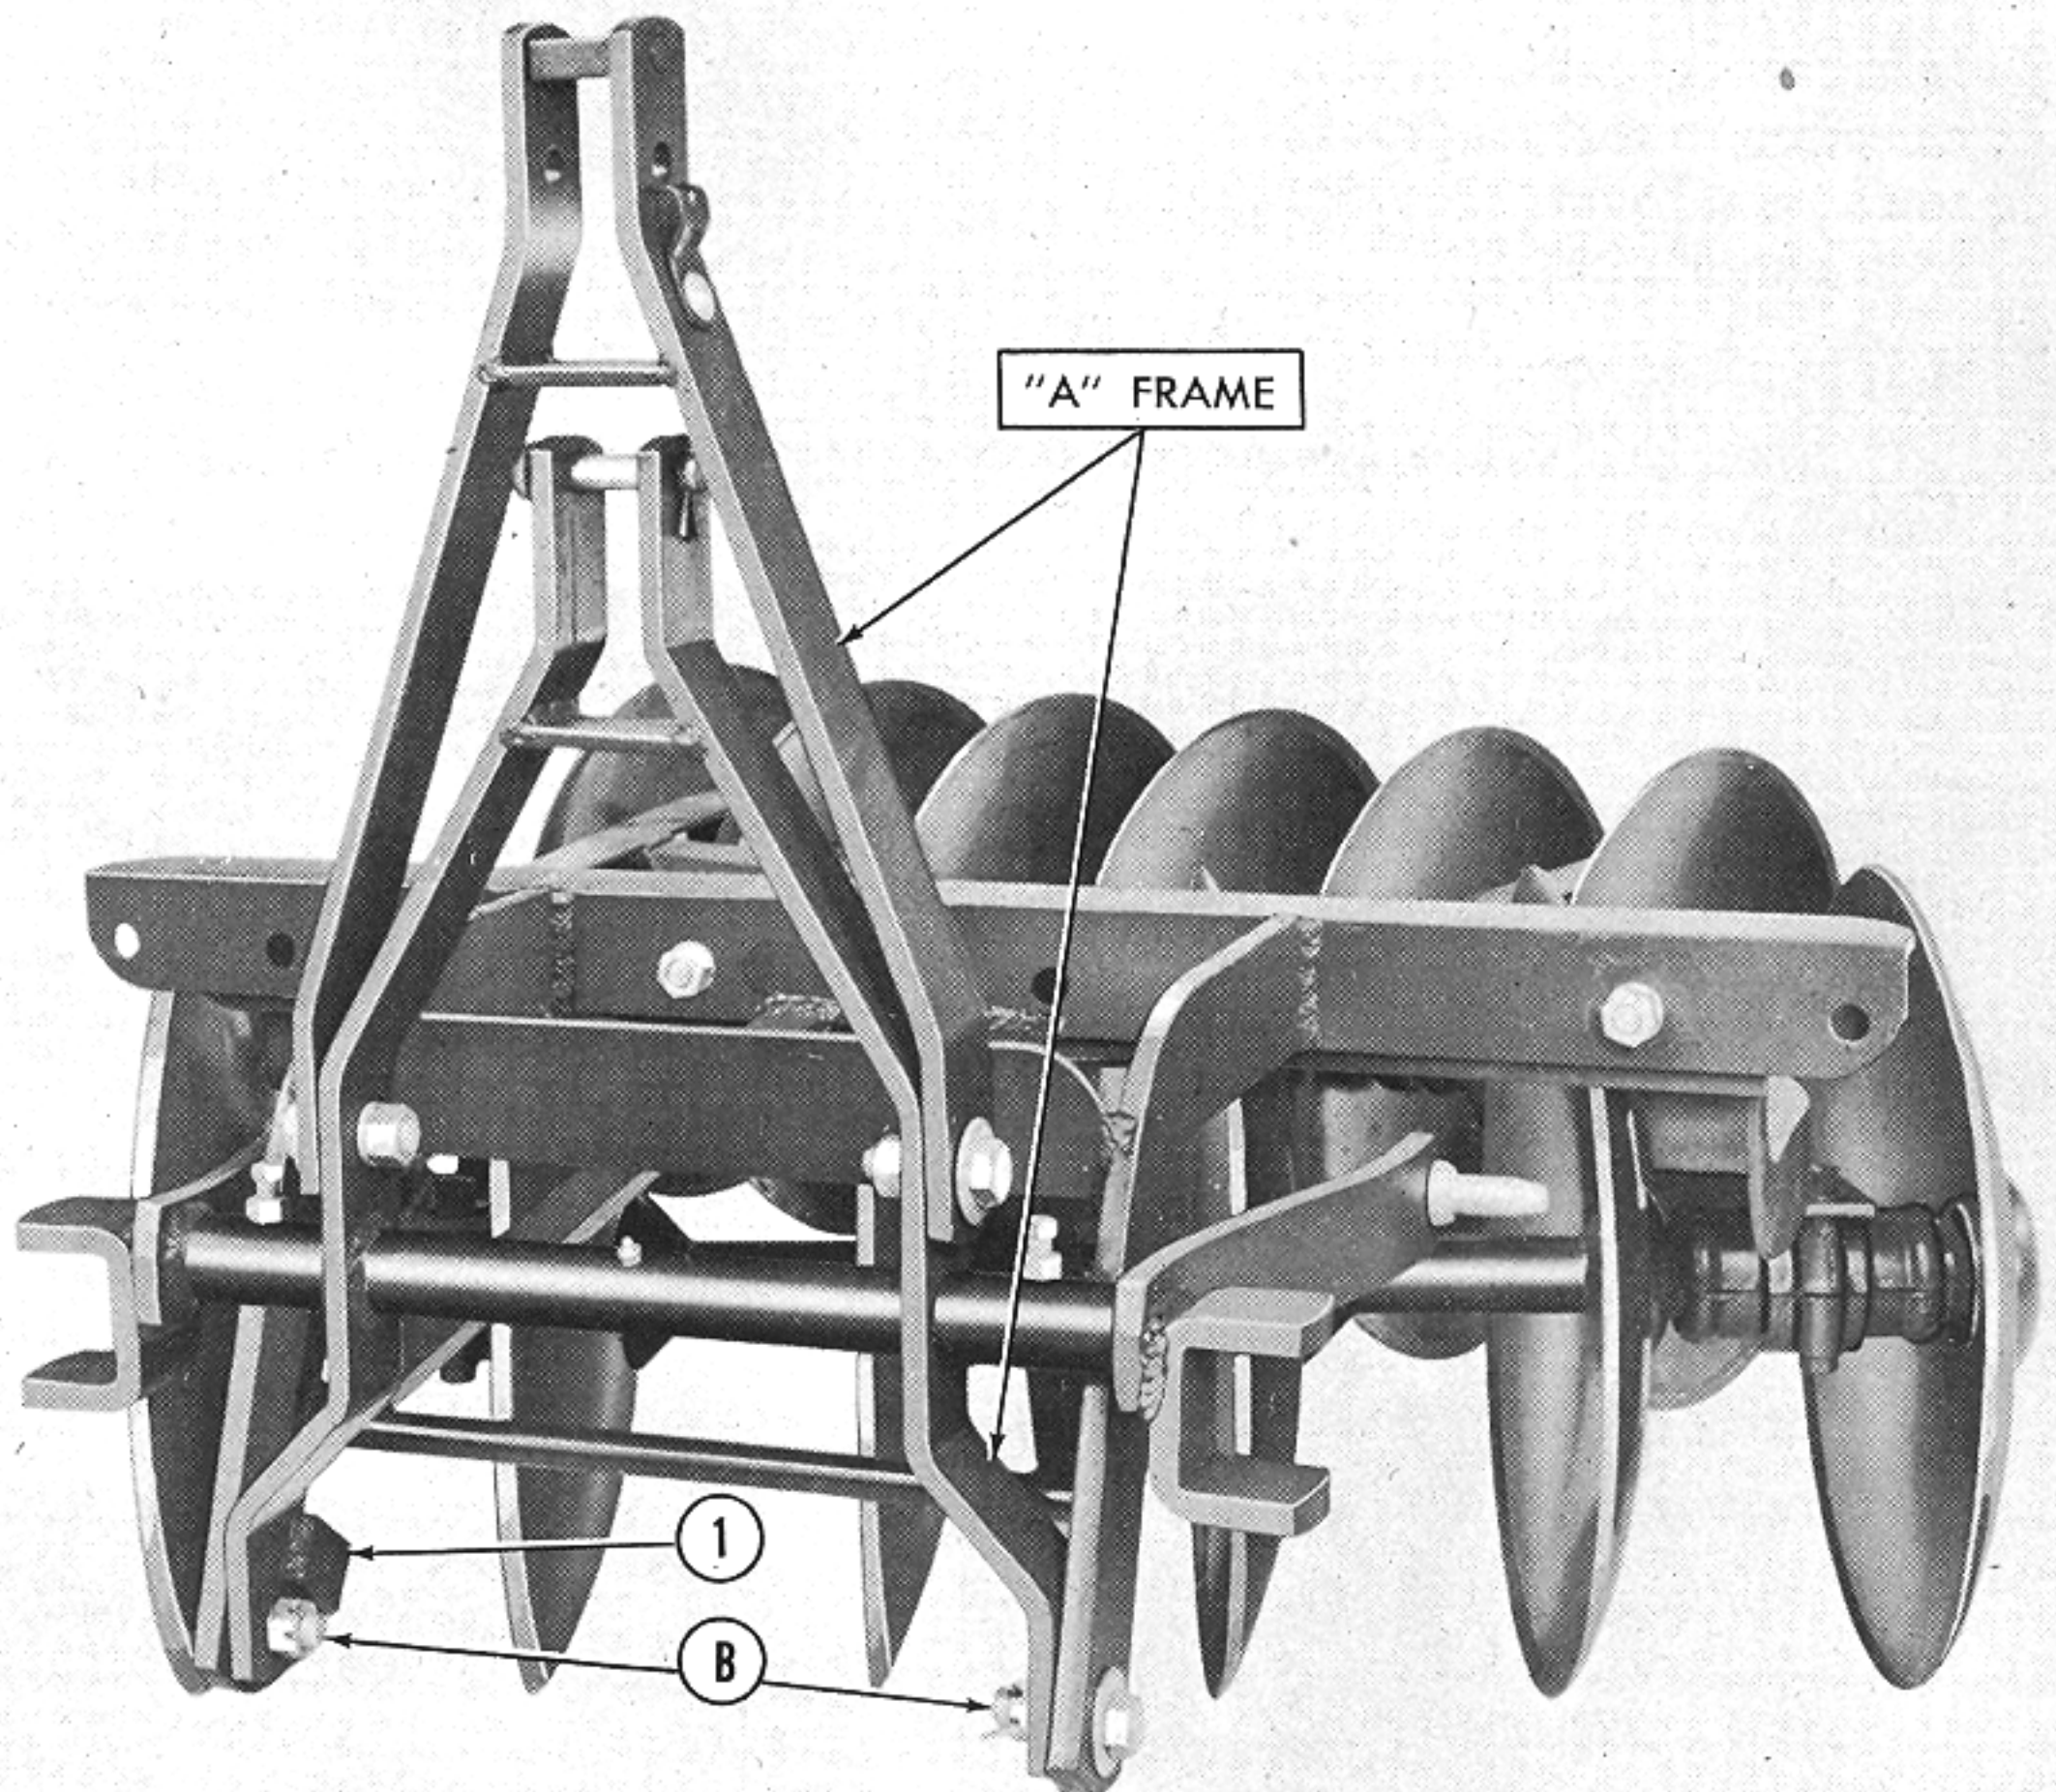

Figure 8
- Attach the "A" frame assembly to the hitch frame at points "B" with bolts, bushings, and large washers provided as shown in Figure 8. Secure the castellated nuts with cotter pins. Be sure that stop bracket (1) is hooked behind the hitch bar as shown in Figure 8.